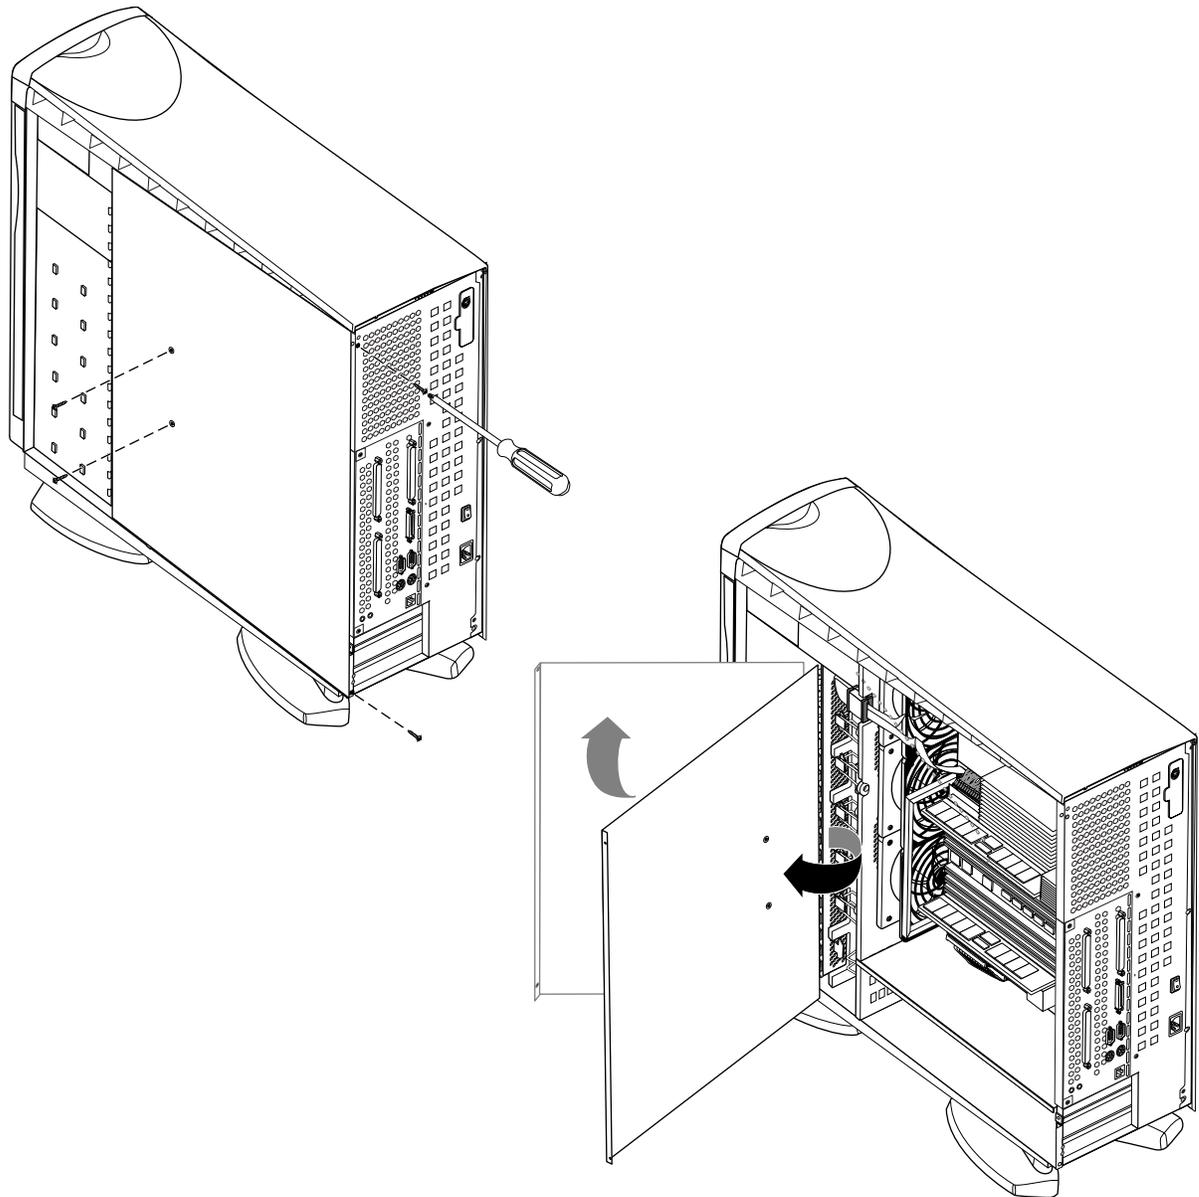

Figure 4-10 Opening the Chassis Access Door, Tower Origin200
3. Open the chassis access door, as shown in Figure 4-10.